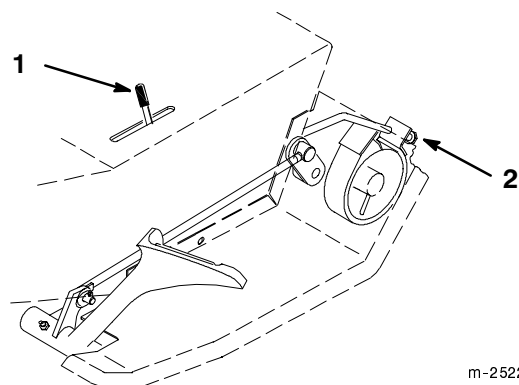

Figure 29
The brake adjustment is behind the left side cover (Fig. 29). If the parking brake does not hold securely, an adjustment is required.
3. To adjust the brake tighten adjustment nut until rear wheels skid, then tighten an additional 1/2 turn (Fig. 29).